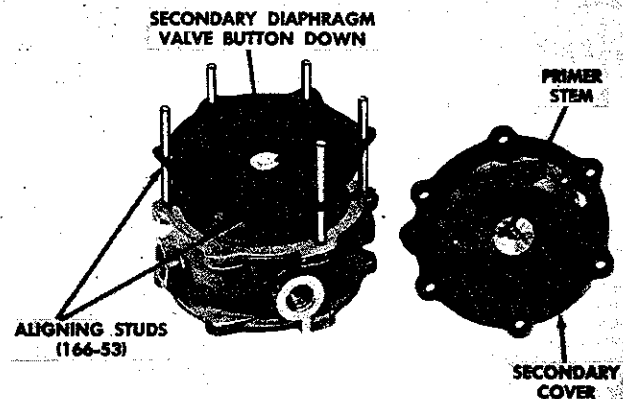

FIGURE 19
8. Insert five aligning studs (C166-53) in five assembly screw holes in body casting. Figure 19.
9. Install secondary diaphragm, plate and valve button down. Figure 19. *Note: Disregard 7th hole in diaphragm.*